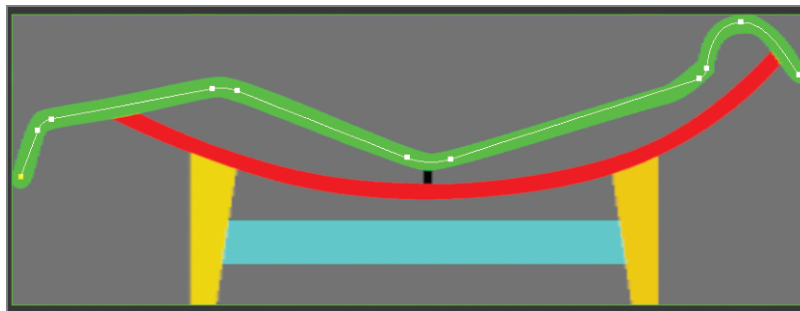

FIGURE 4.21 The completed spline for the side of the lounge
12. Repeat the process on vertices 3, 4, and 5. The completed spline is shown in Figure 4.21. Use whatever Fillet value is appropriate for the part of the lounge chair you are working on.